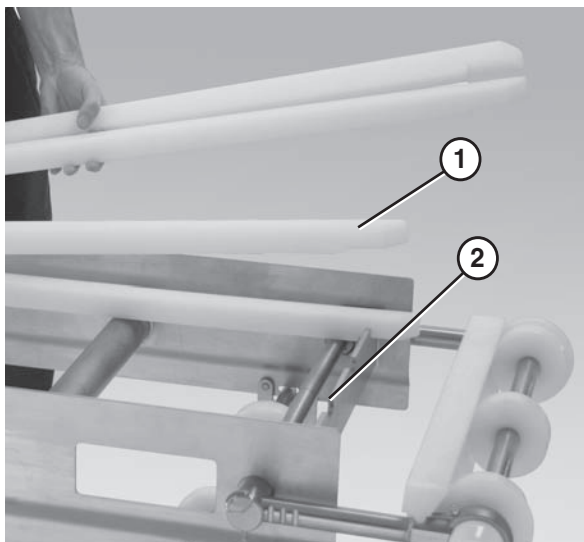

Figure 29
1. Position the wear strips (**Figure 29, item 1**) on the frame.
2. Make sure the wear strips are situated securely in the frame slots (**Figure 29, item 2**).